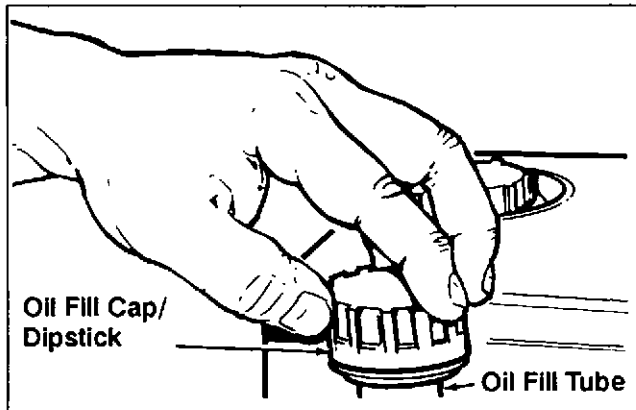

Figure 6-2. Checking Oil Level – CH5 Engines With Extended Oil Fill Tube/Dipstick.
3. Unthread and remove the oil fill cap/dipstick; wipe oil off. Reinsert the dipstick into the tube and rest the oil fill cap on the tube. Do not thread the cap onto the tube. See Figure 6-2.